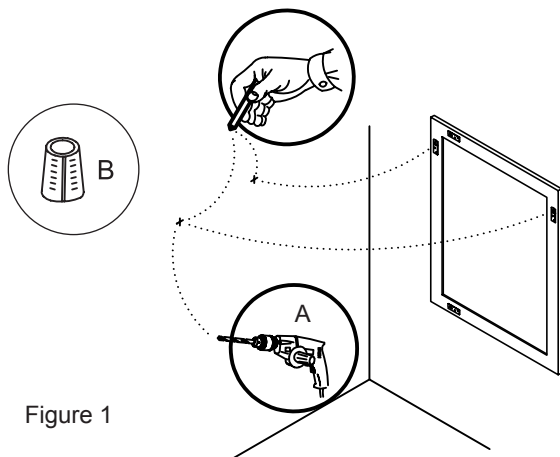

Figure 1
- 1) Determine the desired location of the mirror. 2) Mark the location of the mounting screws on the wall, ensuring that they are level. Figure 1. **Note:** It is recommended that the mirror be installed to at least 1 wall stud. In order to locate wall studs, you can use a stud finder or tap along the wall until you find a spot that sounds solid. If you are unable to locate a wall stud, it is recommended that you use wall anchors (B - not included) to secure your mirror.